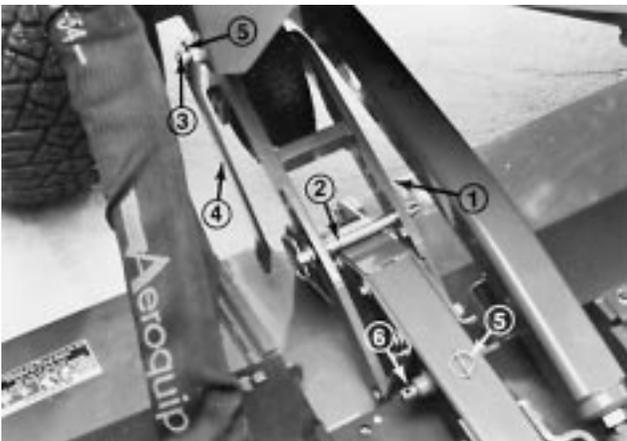

Figure 59
3. Remove hairpin cotters and clevis pins from the (2) rear castor assemblies (Fig. 58). Set the left hand clevis pin aside and insert the right hand clevis pin into the most forward holes in the castor wheel arm on the right side of the unit (Fig. 59). The castor arm and pin should be resting on top of the unit.
- Fit deck tilt link over weldment on the right side of traction unit and secure with klik pin. Position link so it clears when cutting unit is raised. Keep remaining klik pin handy to secure opposite end of link to cutting unit arm weldment (Fig. 59).